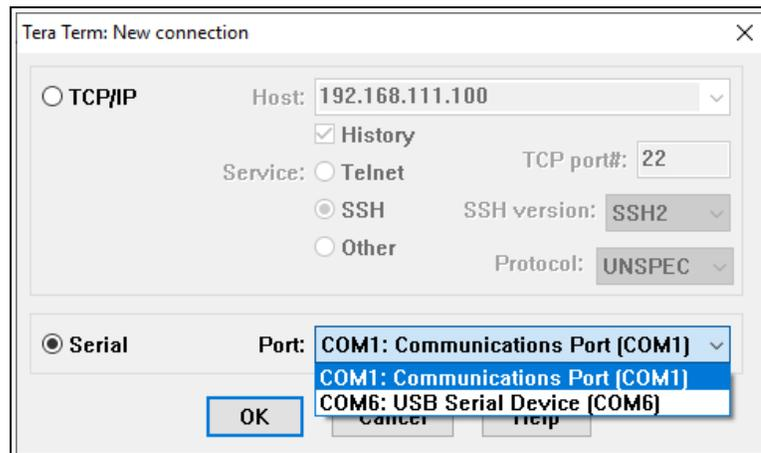

Figure 229: Select the Z9-P or Z9-PE COM Port
3. Click the **Port** list box arrow and select the COM port the Z9-P or Z9-PE is connected to. Figure 229